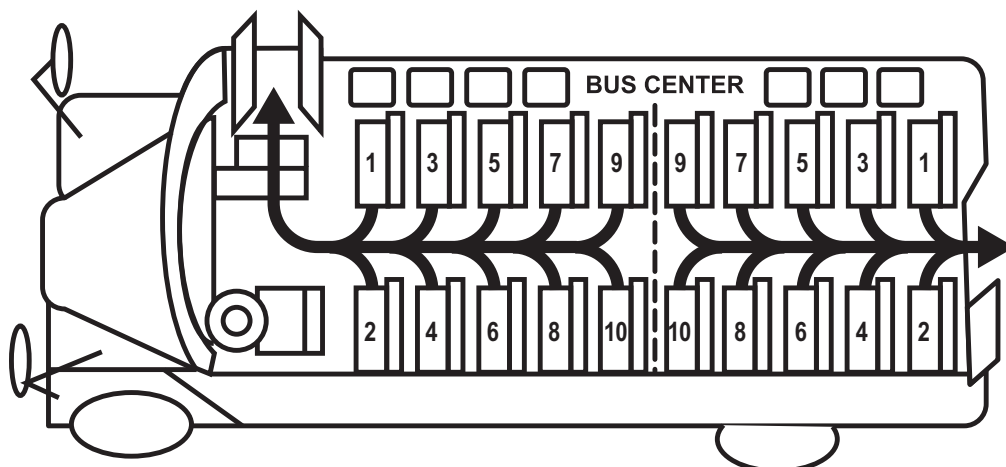

Figure 12-4. Evacuation Order for Front and Back Door Evacuation.
- For front and rear door exits, students in the front half of the bus will evacuate in the following order: right front seat, left front seat, and the rest of the seats from right to left. Students in the back half of the bus will evacuate in the following order: right back seat, left back seat, and the rest of the seats from right to left (Figure 12-4).